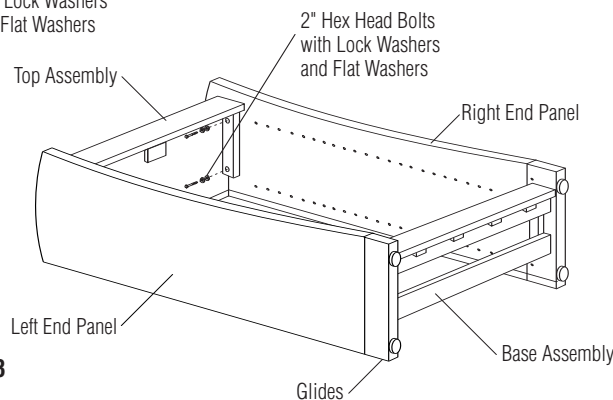

Figure 3
4. For single starter unit (stand-alone) and final end panel for connecting units: Take the right end panel (holes to inside) and align the side with the holes in both the base and the top assembly (Figure 3). Insert 2" hex head bolts with lock washers and flat washers into the base and top assembly. Tighten.